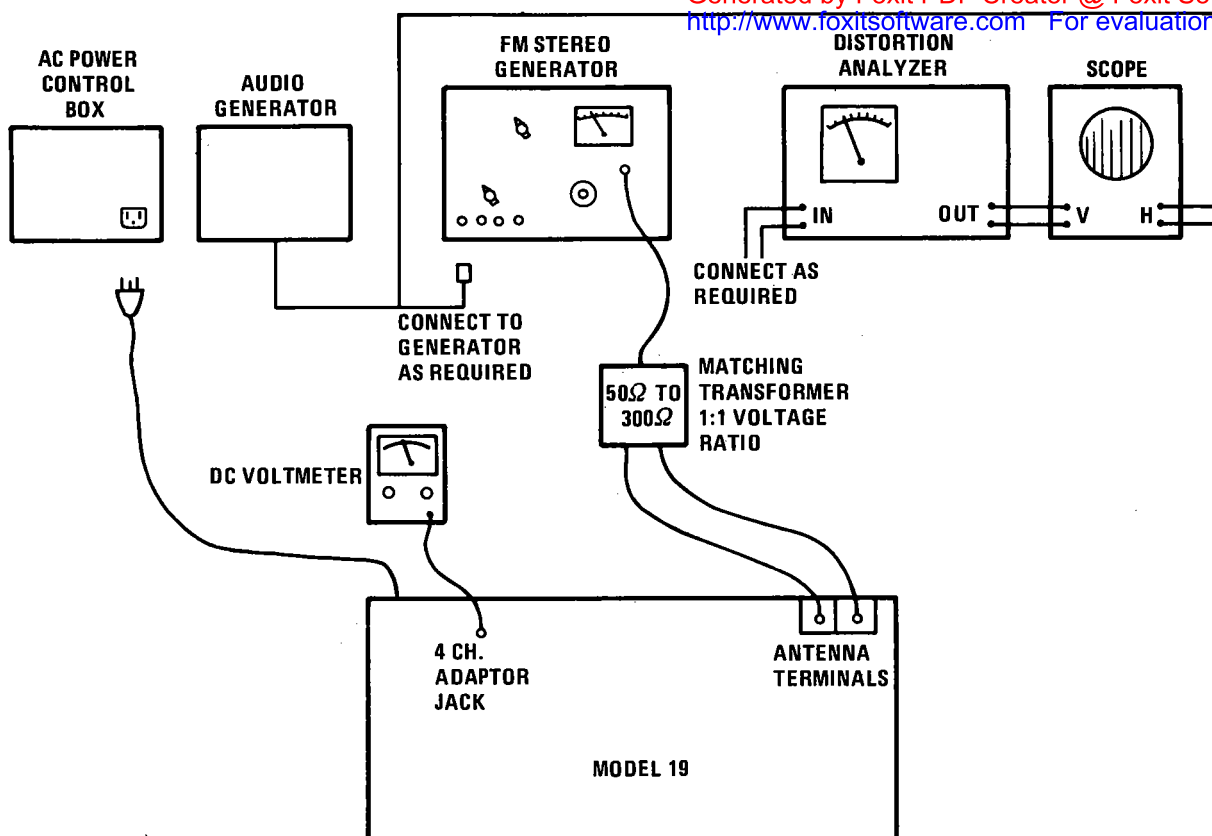

FIGURE 5. FM TEST SET-UP
1. Make the test setup shown in fig. 5 with instrument controls set in the following positions: